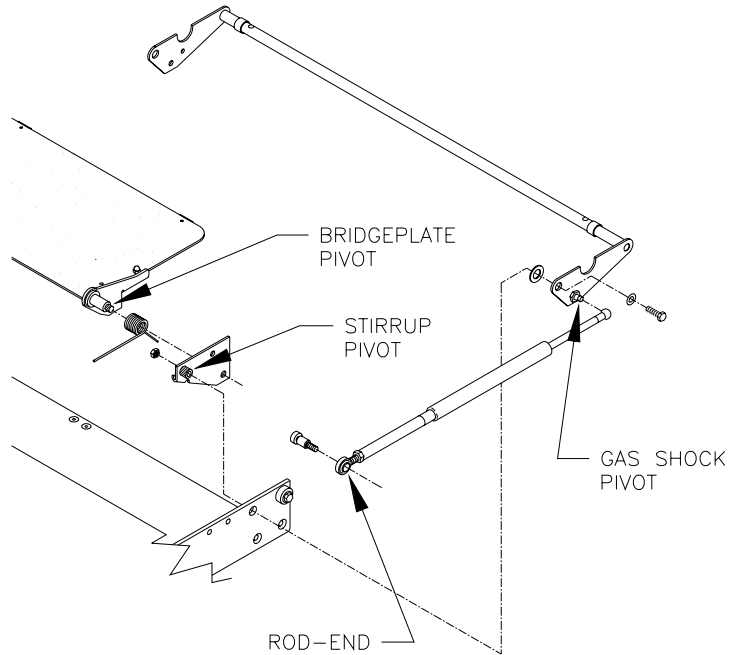

FIGURE 4-8: BRIDGEPLATE LUBRICATION POINTS
- 3) Refer to **Figure 4-8**. Lubricate the points indicated in the figure with light grease (ZEP PLS, p/n 497C, Curtisol® Red Grease p/n 88167, or equivalent). Wipe off excess grease. Repeat for other side of bridgeplate.